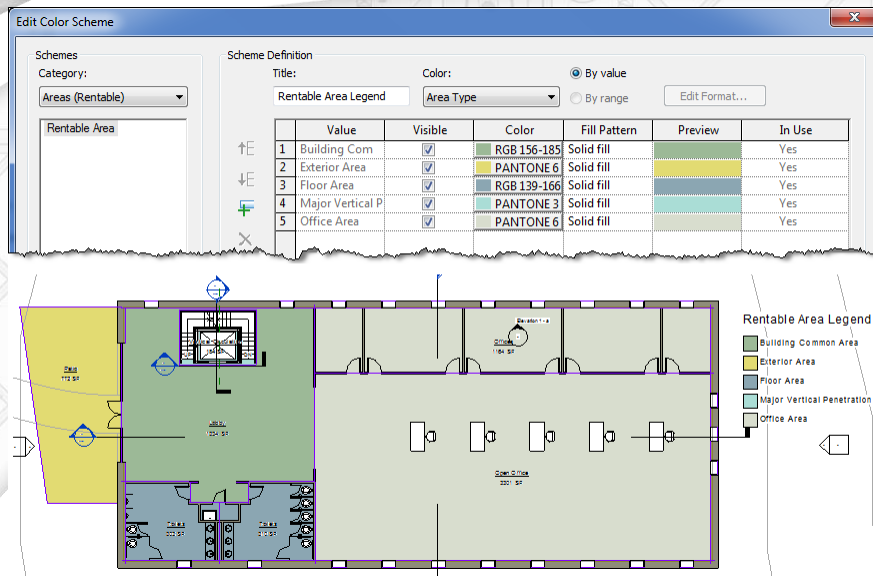

FIGURE 13 – CREATE A COLOR SCHEME AND APPLY IT TO A VIEW
- ✓ To apply the Scheme to a View, edit the View Properties and choose it for the Color Scheme property. There is a Legend button on the ribbon if you wish to add a legend to the view (see Figure 13).